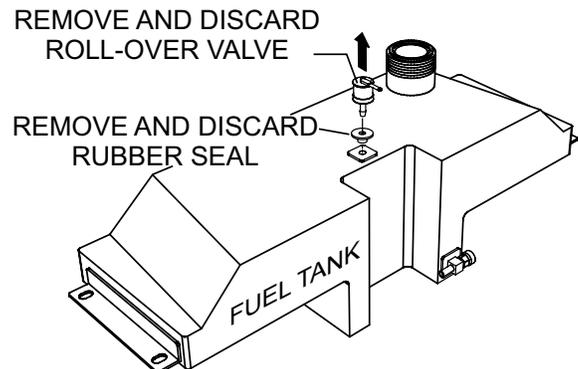

Figure 9. Removing Roll-Over Valve
1. Use a flat head screwdriver to remove the roll-over valve and rubber seal from the fuel tank as shown in Figure 9.